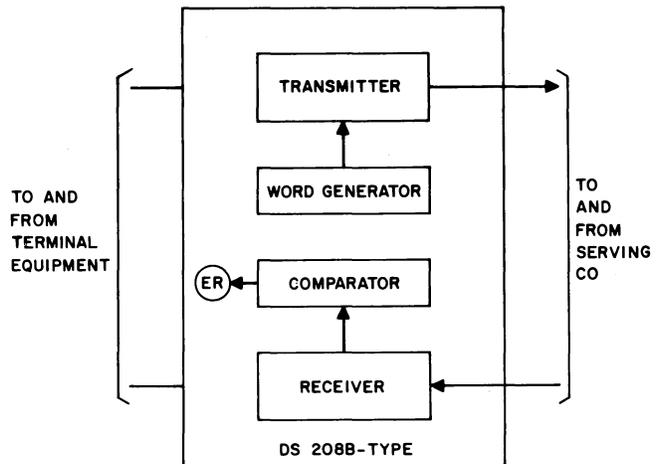

Fig. 14—End-to-End Self Test Mode
- (c) Depress ST and RO switches on the local data set, then transfer to data mode by depressing the DATA button on the telephone set. The ON and CO lamps should be illuminated. On DS 208B-L1 and -L1A, the RS, CS, MR, and ER lamps should be extinguished. The TR lamp may be illuminated or extinguished, (depending on the state of the CD lead from the customer). On DS 208B-L1B, the TR and MR lamps are illuminated. The data set will be arranged as shown in Fig. 14 and the ER lamp will flash each time an error is detected. Make the following test with the 4-dB slope compromise equalizer installed.
(i) Depress ST and RO switches on the local data set, then transfer to data mode by depressing the DATA button on the telephone set. The ON and CO lamps should be illuminated. On DS 208B-L1 and -L1A, RS, CS, MR, and ER lamps should be extinguished. The TR lamp may be illuminated or extinguished (depending on the state of the CD lead from the customer). On DS 208B-L1B, the TR and MR lamps are illuminated. The data set will be arranged as shown in Fig. 14 and the ER lamp will flash each time an error is detected.